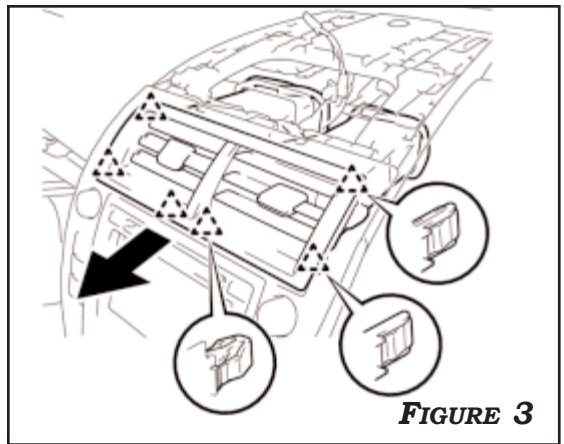

FIGURE 3
3. PULL THE AIR CONDITIONING VENT COVER ASSEMBLY IN THE DIRECTION INDICATED BY THE ARROW TO DISENGAGE THE 6 CLIPS TO REMOVE. **FIGURE 3**